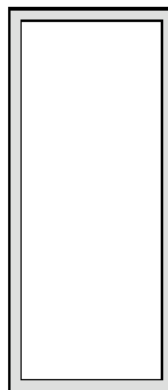

Figure 13. Solder Paste Application on Pins
5. The aperture opening for the signal pads should be between 50–80% of the QFN pad area as shown in Figure 13.